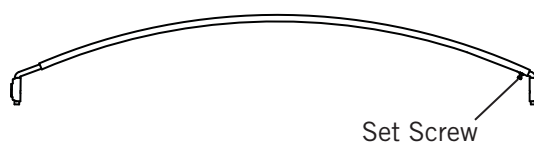

Figure 28
- 3) Figure 28.** Loosen set screw on bow. Insert bow into pockets into one pocket and adjust width and insert in other pocket and tighten set screw.